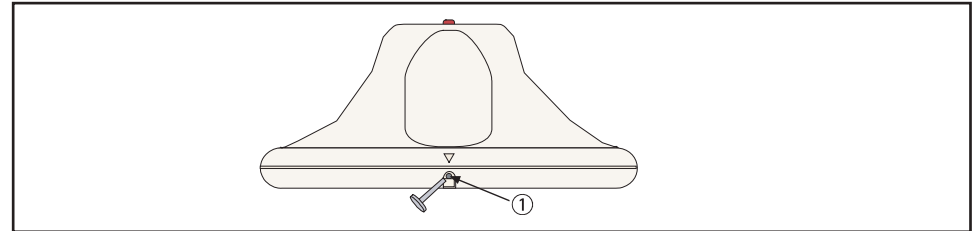

Figure 7.1: Anti Vandal Screw
After the cover has been closed, the entire assembly can be secured together using the supplied anti-vandal screw. Refer to *Figure 7.1 Anti Vandal Screw* callout (1).